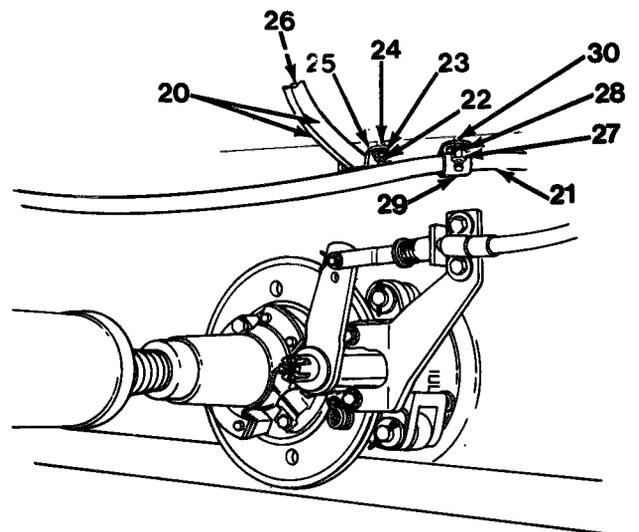

Figure 17-3
14. Near center of vehicle install tie wrap (26) on cable (21, Figure 17-3) to secure cable (21) to vehicle.
15. Install two clamps (29), flatwashers (30), washers (28) and lock nuts (27) on cable (21).
16. Install clamp (25), washer (24), washer (23), nut (22) to secure two cables (20) under vehicle. Install three tie wraps (26) on cables (20) to secure cables (20) to bottom of vehicle.